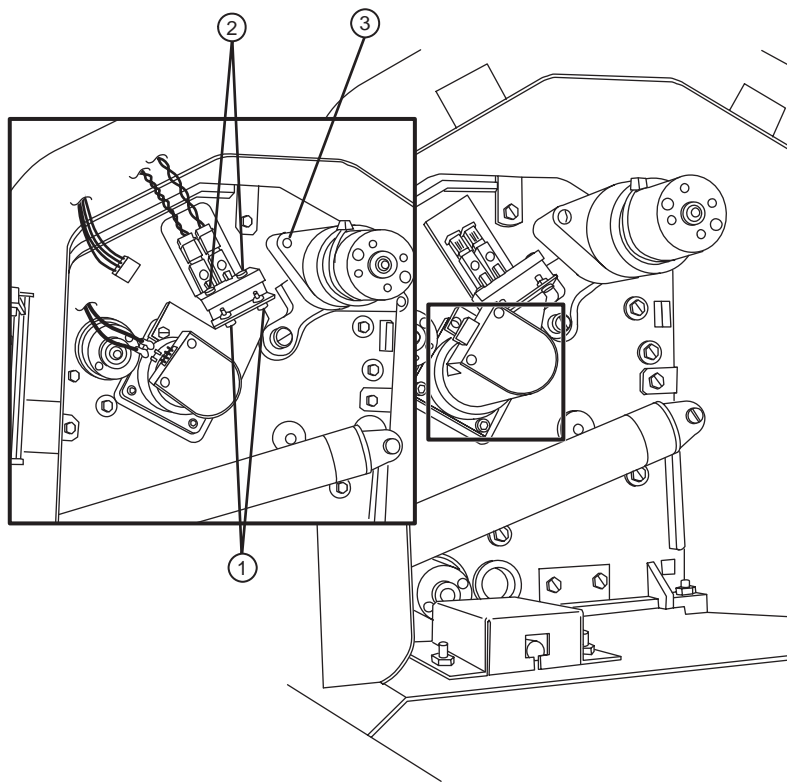

Figure 5-5 Sensor adjustment screws.
1. First adjust spindle "A" sensor. To adjust loosen the two larger 5/16th screws below the flags. (See Figure 5-5).
2. Adjust spindle "B" by loosening the two small 3/16th screws (see figure 5-5) and move the flag. Adjust the flag so the flag assembly moves directly to spindle "B" without moving to spindle "A" first. Moving the flag should not change the spindle A adjustment.